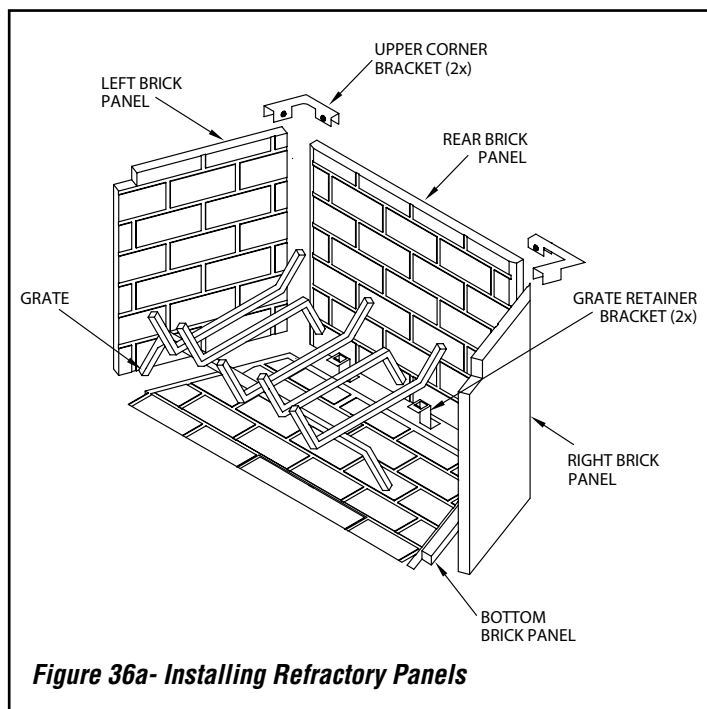

Figure 36a- Installing Refractory Panels
5. Install upper corner brackets and tighten set screws (see **Figure 36a**).
6. Install grate by placing rear legs into slots in the grate retainer (see **Figure 36a**).